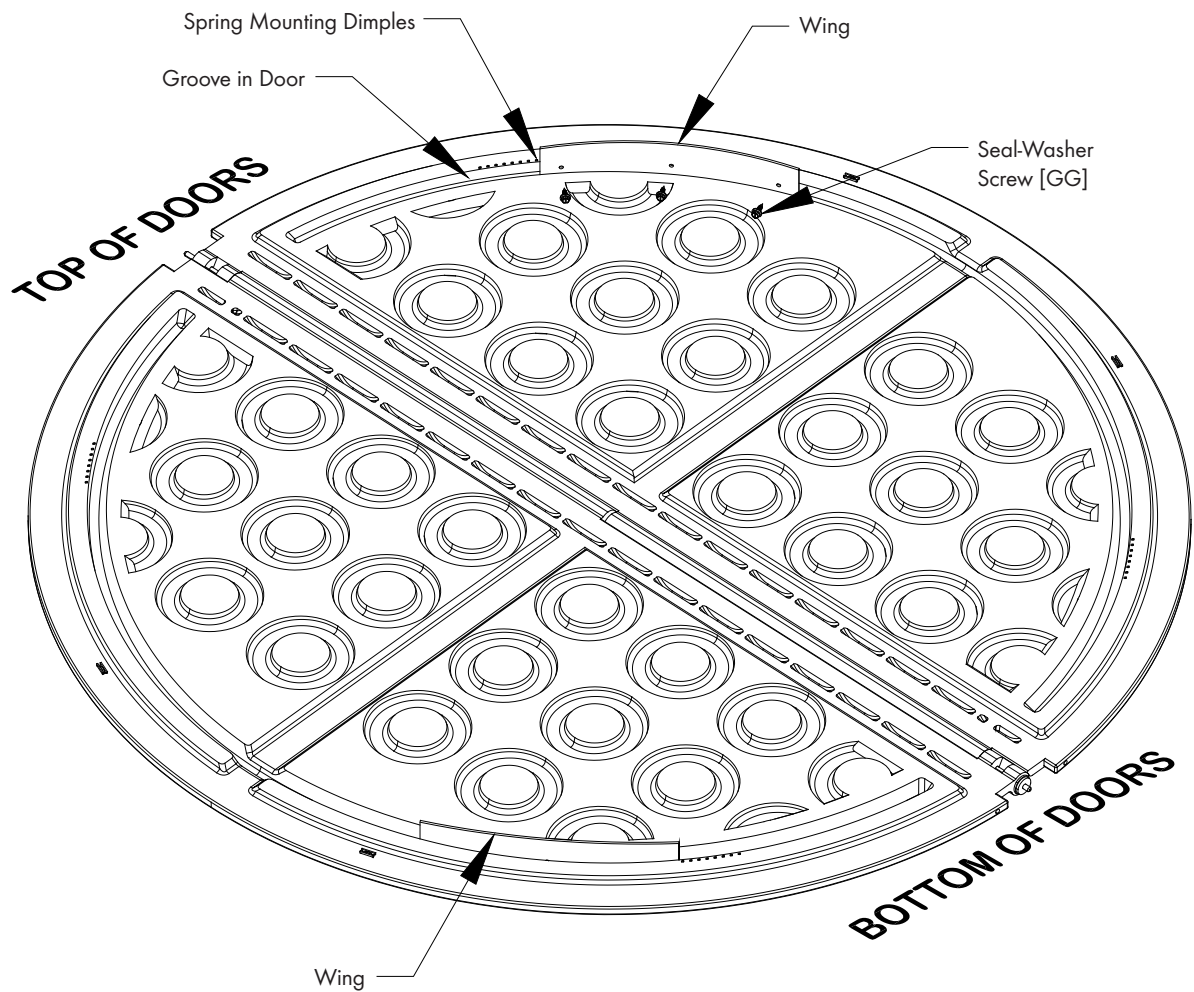

Figure 11
Carefully remove folded door assembly from box. Open doors and lay them flat on solid surface with the Munters Logo down. The Bottom of the doors has the Hinge Pin with the Nylon Washers. The Wing sits down in the Groove of the upper right and lower left doors. For the WM54 the Wing will start just after the last spring mounting dimple and follow the Groove. Make sure Wing is seated in bottom of Groove and fasten in place using (3) Seal-Washer Screws [GG] per wing. Make sure Hinge Pins do not fall out. See Figure 11.